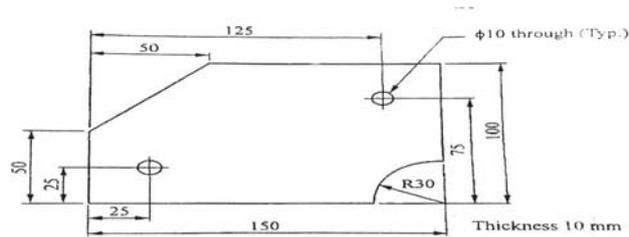

fig. 3a
- Q3) a)** Write a manual part program for the component shown in fig. 3a. Assume the raw product as cast iron and the machining is to achieve the various dimensions. **[12]**